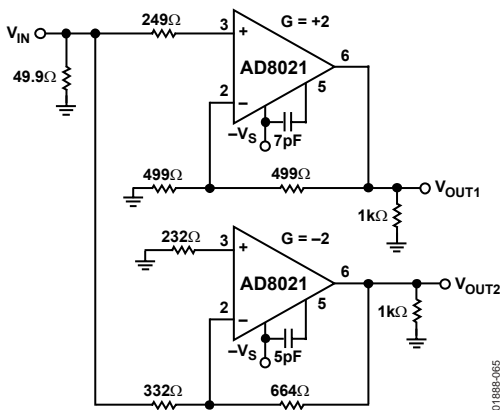
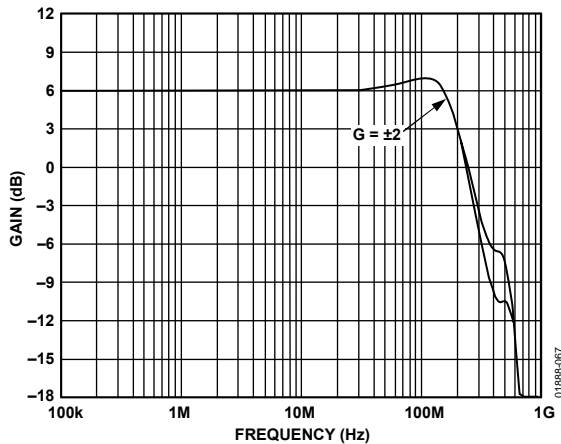

Figure 65. Differential Amplifier
Figure 67. AC Response of Two Dissimilarly Compensated AD8021 Op Amps (Figure 66) Configured for a Gain of +2 and a Gain of -2, (Note the Close Gain Match)
- Match bandwidth in gain blocks with different noise gains, such as when designing differential amplifiers (as shown in Figure 65).
Figure 65 illustrates an inverter-follower driver circuit operating at a gain of 2, using individually compensated AD8021s. The values of feedback and load resistors were selected to provide a total load of less than 1 kΩ, and the equivalent resistances seen at each op amp's inputs were matched to minimize offset voltage and drift. Figure 67 is a plot of the resulting ac responses of driver halves.